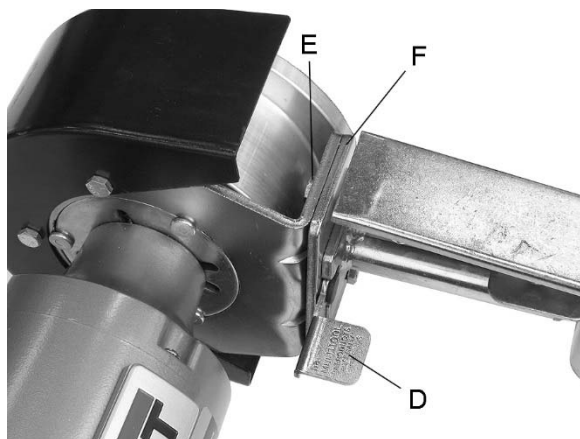

Figure 8-2: belt tracking
Rotate belt by hand to check tracking. If belt shifts to one side or the other, move tracking lever (D, Figure 8-2) while rotating belt until belt completely covers contact wheel and stays centered. Move lever (D) down for left adjustment, up for right adjustment. Turn on grinder to verify setting at operational speed.
1. If belt wanders *away* from grinder, loosen top bolt (E, Figure 8-2) and tap the top of cam plate (F) away from grinder.
2. If belt wanders *toward* grinder, loosen top bolt (E) and tap the top of cam plate (F) toward grinder.
3. Retighten bolt (E), and use lever (D) for final tracking.